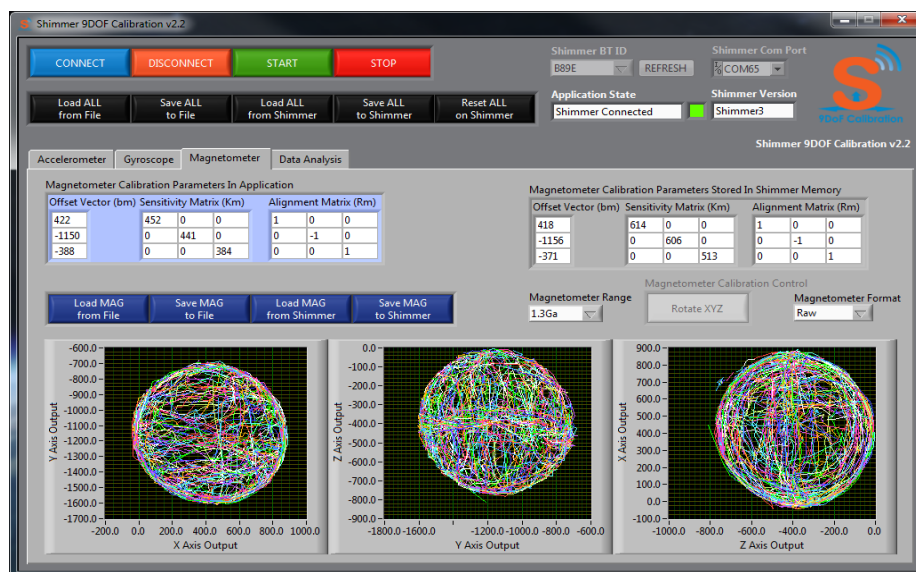

Figure 0-1 Manual magnetometer calibration
1. Complete the magnetometer calibration procedure outlined in section 7.6 which should result in three magnetometer plots as shown in Figure 0-1.
2. Calculate the offset of each axis of the magnetometer by using the graphs shown in Figure 0-1 to find how much the centre of each of the real circles is shifted from the centre of the ideal circle (0,0) .
- I. Find the centre of the circle plotted in the first graph along the x-axis in Figure 0-1 using $(X_{\max} - X_{\min})/2$, the centre was found to lie at (-56, 208)
3. Calculate the sensitivity of each axis of the magnetometer by using the graphs shown in Figure 0-1 to find the diameter of the circle along each axis and dividing it by two.
- I. Find the diameter of the circle along the x-axis plotted in the first graph in Figure 0-1 using $(\text{Abs}(X_{\max} - X_{\min}))/2$, the diameter was found to be 918.